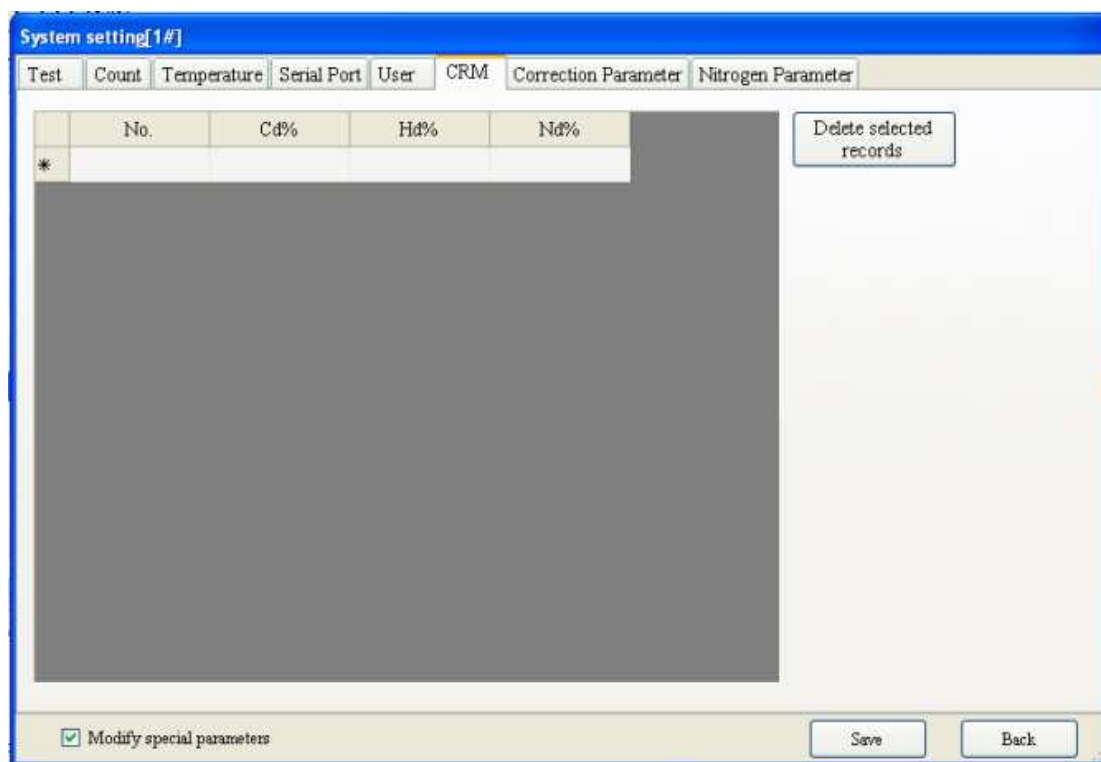

Fig. 4-3-7
5. Standard substance: Click on “Standard Substance” option tab of “Setting window”, the window shown as Fig. 4-3-7 will popup.